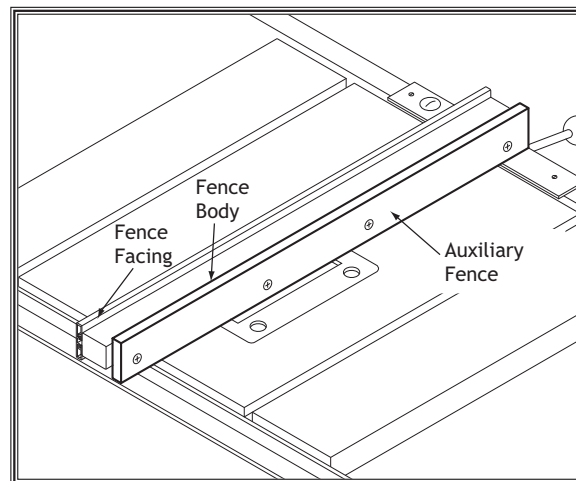

Figure 57. Auxiliary fence.
4. Thread the four M8-1.25 x 25 flat head screws through the auxiliary fence and into the hex nuts in the standard fence body, and tighten securely as shown in **Figure 57**.